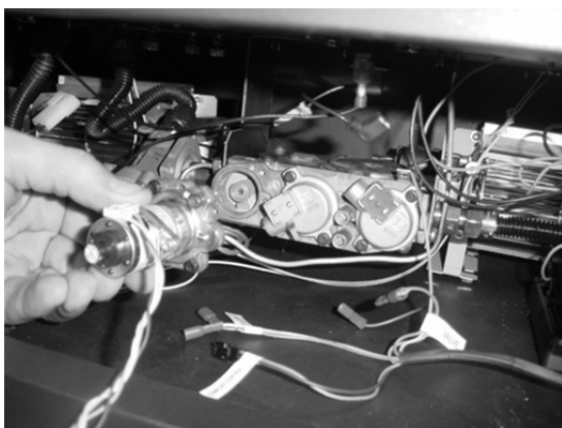

Figure 1
- (b) Remove and discard the Natural Gas (NG) orifice. Place the LP orifice in the pilot assembly then replace the pilot hood, tightening the pilot hood until it is snug (do not over-tighten).
- 6 Remove the control panel to access the gas control valve. The stepper motor (adjustable regulator) has an installation sheet included with it – make sure to follow all of the directions. Place the stepper motor on the gas control valve (see Figure 1) – **MAKE SURE IT IS CORRECTLY ORIENTED.** Secure using the screws included with the motor (see Figure 2) – tighten to 25 Lb-inches. Leak test this area after installation to verify proper installation.